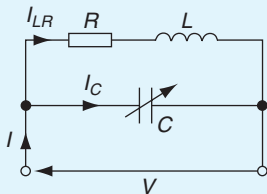

Figure 16.11
6. A parallel circuit as shown in Fig. 16.11 is tuned to resonance by varying capacitance C . Resistance, $R = 30\ \Omega$, inductance, $L = 400\ \mu\text{H}$, and the supply voltage, $V = 200\text{ V}$, 5 MHz .